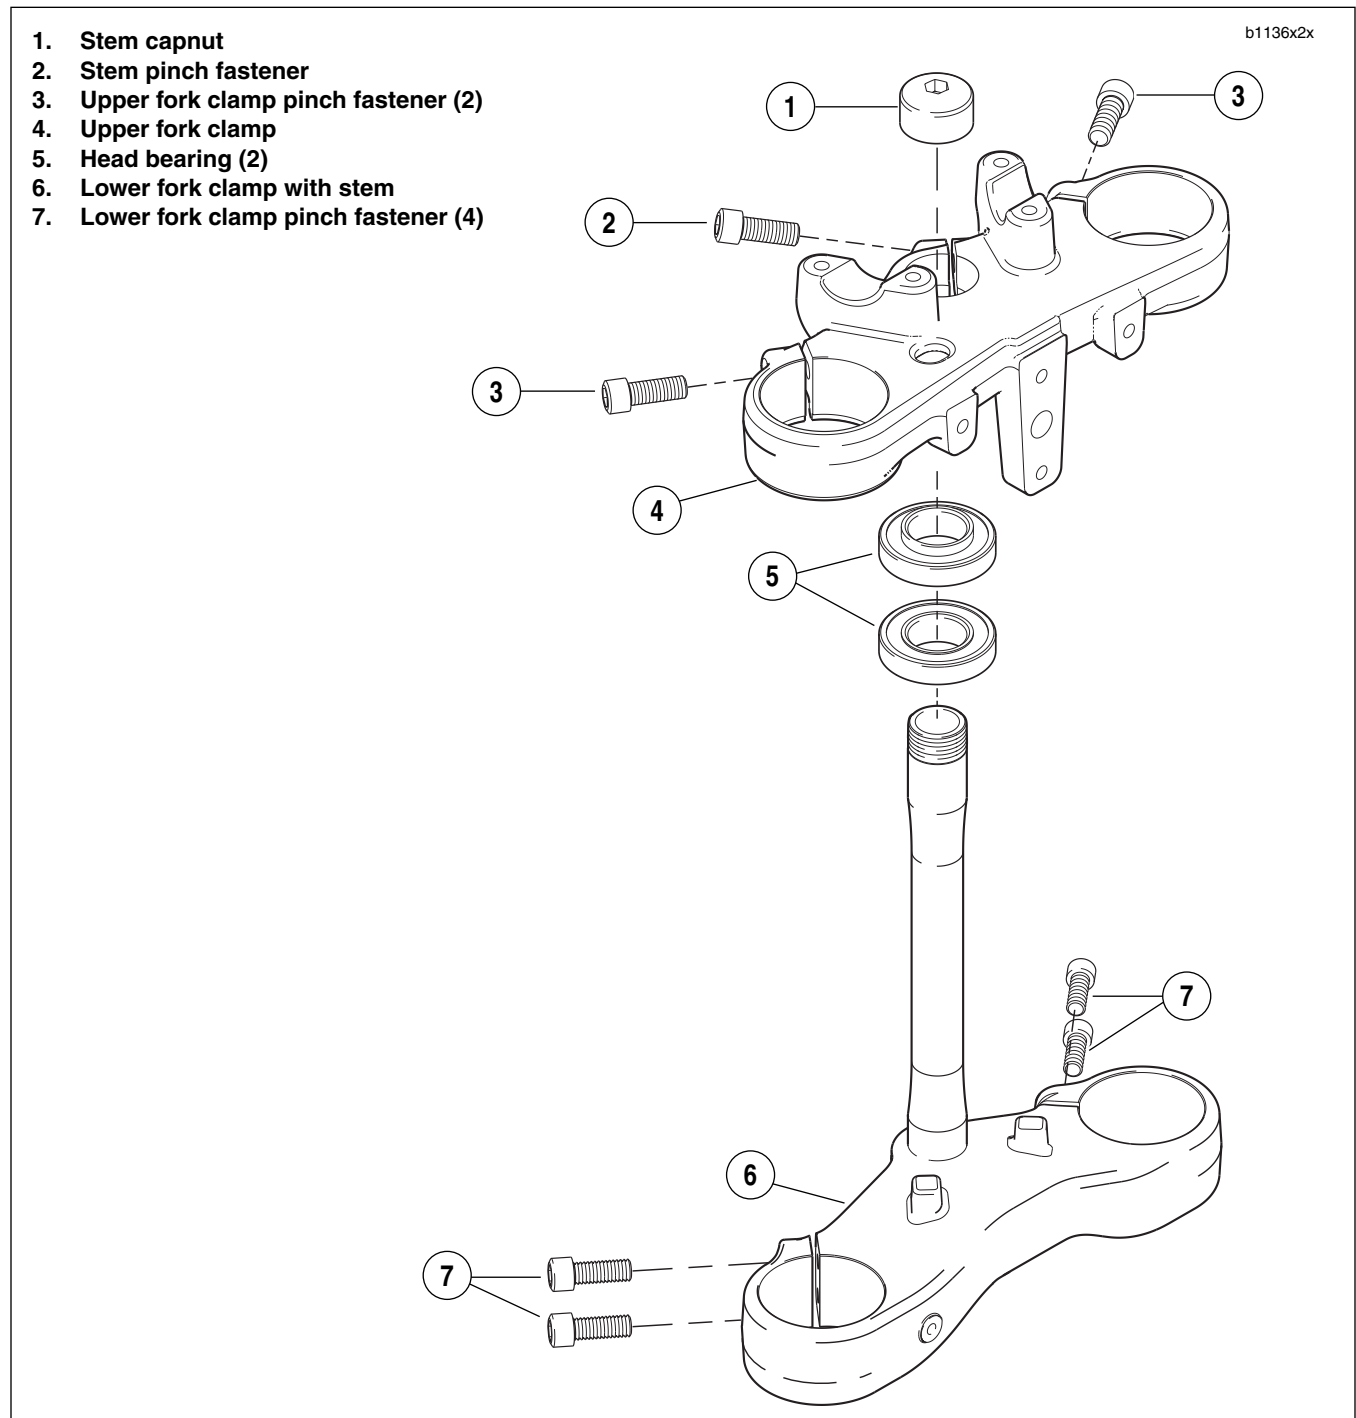
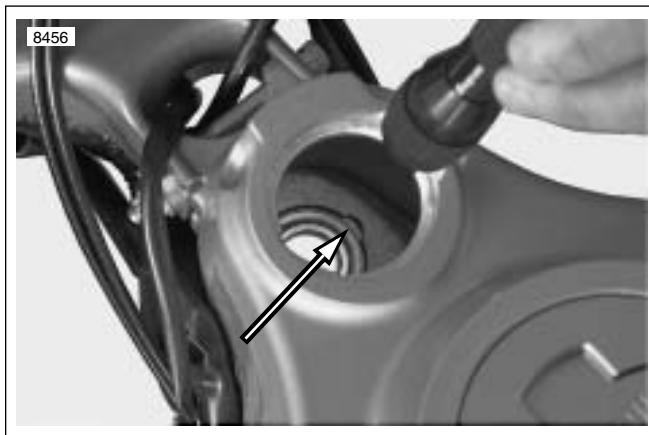

Figure 2-78. Steering Stem Assembly
Figure 2-79. Lower Steering Head Bearing Notches (upper bearing removed for clarity)
5. See Figure 2-78. Remove steering stem pinch fastener (2).
6. See Figure 2-78. Hold or brace the lower fork clamp and remove steering stem capnut (1).
7. Remove the upper fork clamp (4).
8. Remove the lower fork clamp (6).
1. See Figure 2-78. Install the lower fork clamp (6) into the steering stem bore and install the upper fork clamp (4).
2. Install steering stem capnut (1). Tighten but do not torque.
- a. See Figure 2-78. Loosen steering stem pinch fastener (2) and upper and lower fork clamp pinch fasteners (3, 7).
- b. Brace wheel while removing steering stem capnut fastener (1).
- c. Remove upper fork clamp (4) and front-end assembly which includes front wheel, steering stem/lower fork clamp.
5. Remove upper and lower steering head bearings (5).
- a. See Figure 2-79. Locate notches inside steering head stem bore (upper bearing removed for clarity).